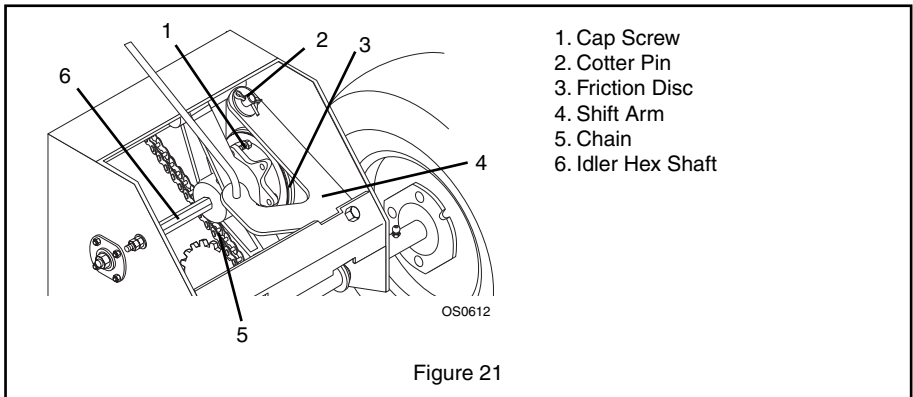

Figure 21
3. Loosen nuts on idler hex shaft (Figure 21). Adjust the idler hex shaft in slot as necessary. Torque the nut to 70-146 lbf-in (7.9 - 16.5 N•m).
3. Place speed selector in first (1) position and depress traction clutch lever to hold friction disc and hub in position.
4. Remove cap screws from hub (Figure 21).
5. Release traction clutch lever, shift to third (3) position, and remove friction disc.